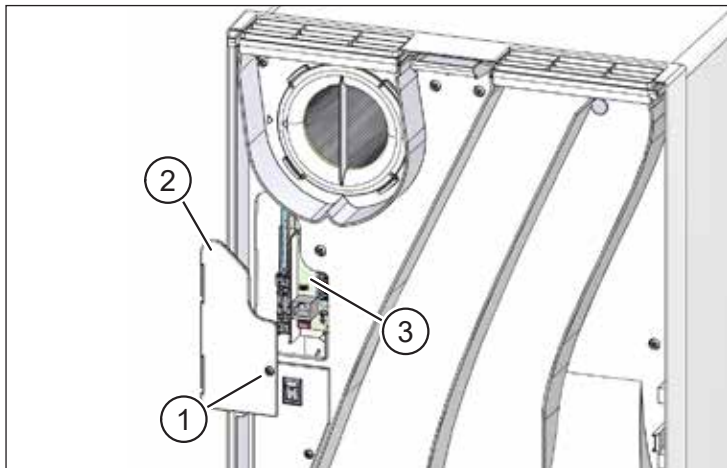

Fig. 2: Remove the electronics compartment cover
- ▶ Use the screwdriver to loosen the Torx screw (item 1 in Fig. 2) on the electronics compartment cover (item 2 in Fig. 2).
- ▶ Remove the electronics compartment cover to access the connection board (item 3 in Fig. 2).
- ▶ Position the gateway inside the ventilation unit in the vicinity of the connection board (item 3 in Fig. 2).
- ▶ Secure the electronics compartment cover (item 2 in Fig. 2).